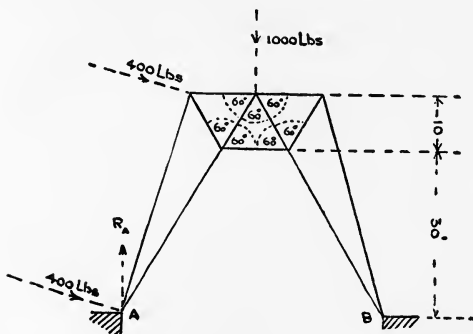

FIG 1.
1. The framework shewn in Fig. 1 is fixed at B and carried on rollers at A , so that R_A , the reaction at A , is vertical. The framework supports a vertical load of 1000 lbs., and two forces of 400 lbs., due to wind pressure, also act upon the frame. Determine the reaction at B , and construct to scale the reciprocal figure for the framework.